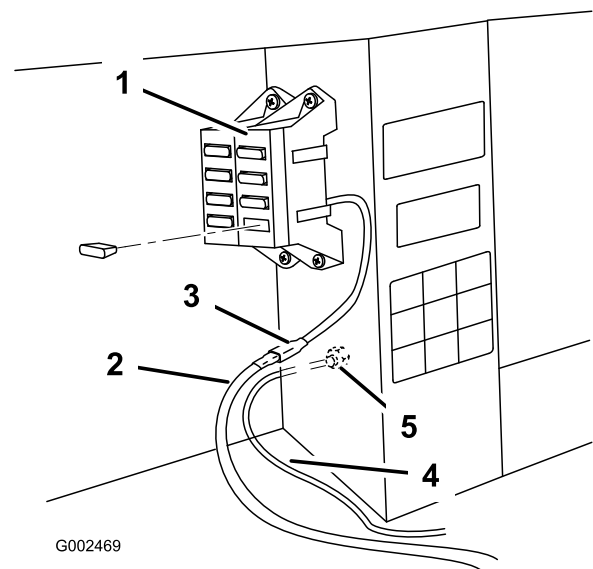

Figure 23
2. Connect the ring on the black wire to the ground bolt (Figure 23).